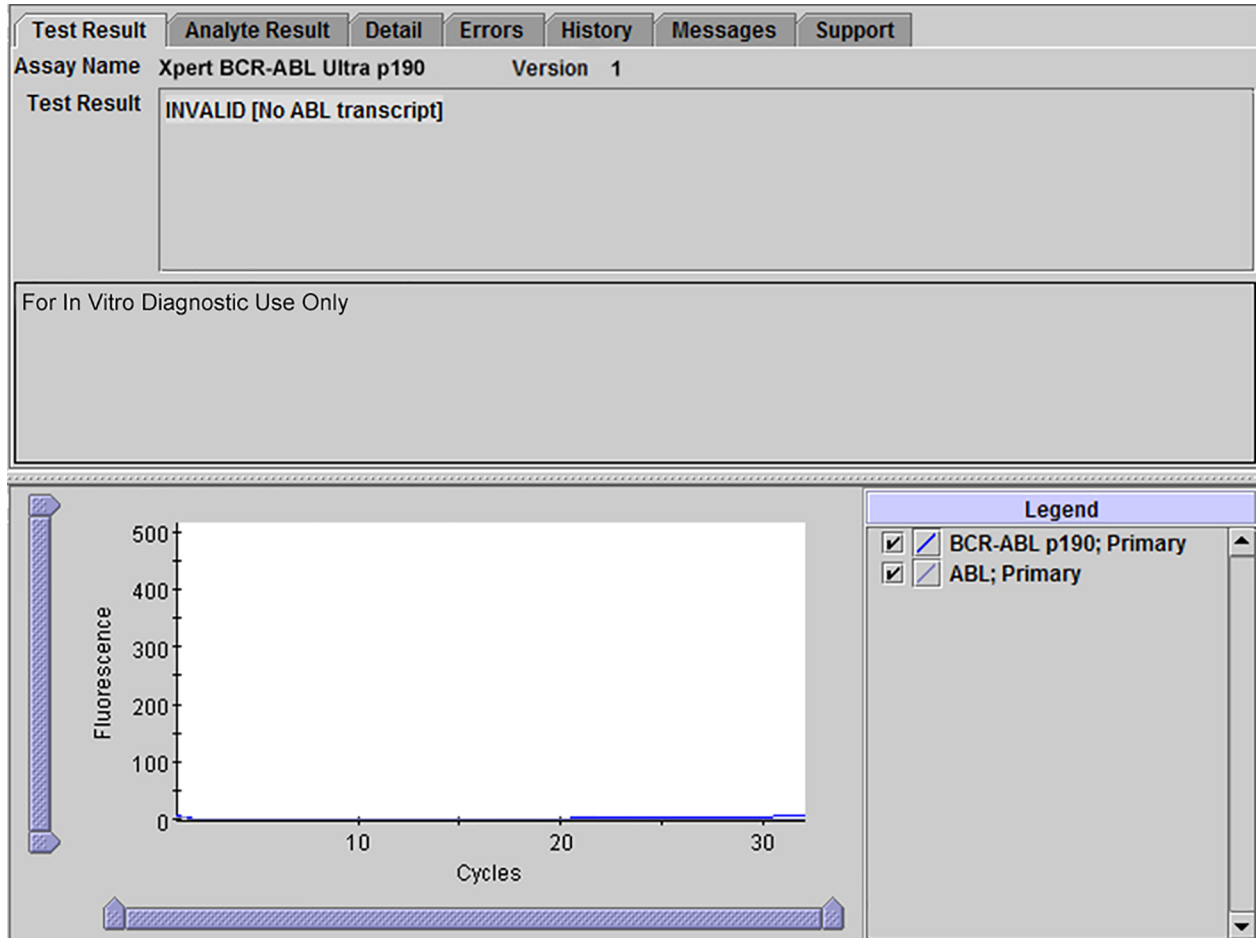

Figure 6. GeneXpert Dx View Results Window: INVALID [No ABL transcript]
**Result:** **INVALID [No ABL transcript]**. See Figure 6.